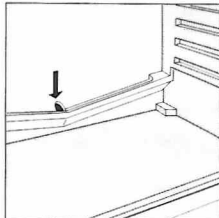

Fig. 2
This appliance defrosts automatically and the water is channeled to the back toward the drain installed for this purpose (fig. 2). Here, the heat produced by the compressor will make it evaporate. The only thing you must do is to periodically check and clean the hole of the drain, which is located behind the vegetable crispers, so that the water drains properly.
- The hole for draining the water from the frost is clogged (see fig. 2).